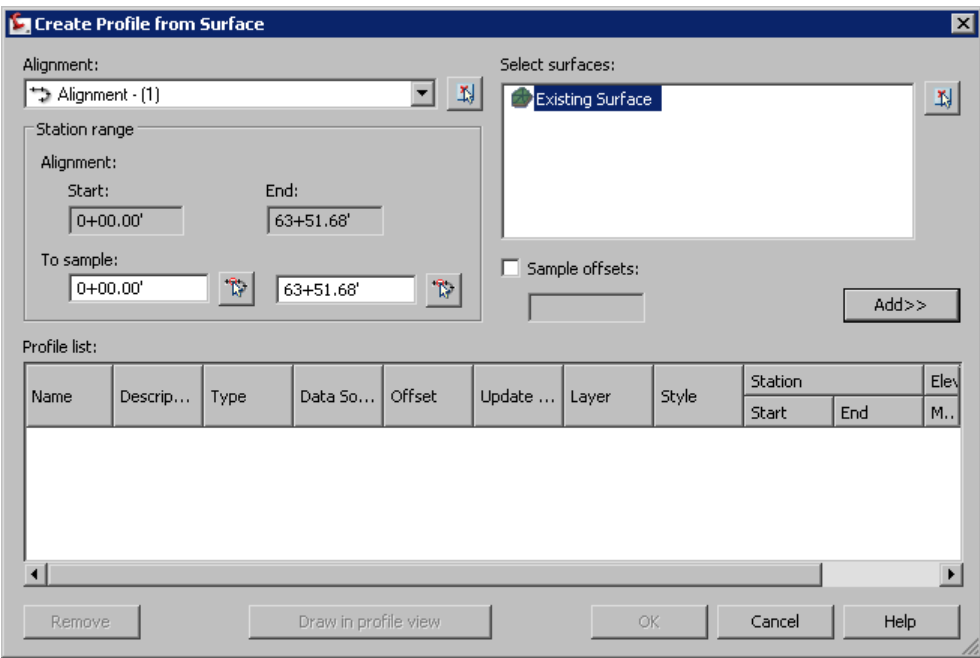

Figure 6-2 The Create Profile from Surface dialog box
You can create a surface profile and analyze the elevations along a horizontal path. To create a surface profile or an **Existing Ground (EG)** profile, choose **Profiles > Create Profile from Surface** from the menu bar; the **Create Profile from Surface** dialog box will be displayed, as shown in Figure 6-2.